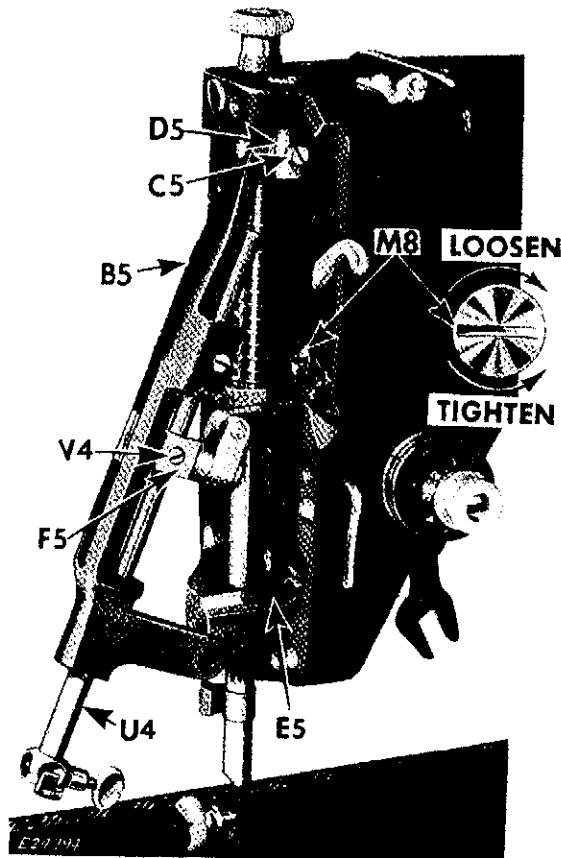

Fig. 69. Needle Bar Holder Removal and Replacement
5. Care should be taken not to lose floating spring **E5**, Fig. 69 which gives sidewise tension to needle bar holder.
6. Turn hand wheel clockwise until a screwdriver can be easily inserted into slot of cap screw **M8**, Figs. 69 and 70. Then turn cap screw clockwise and remove it.
7. Remove hinge screw **C5**, Fig. 69 from supporting bracket **D5** and remove needle bar holder.
2. Place top of needle bar holder **B5**, Fig. 69 into supporting bracket **D5**. Then insert hinge screw **C5** and tighten carefully to avoid stripping threads. (Use finger tip pressure.)
3. Place top of connecting link on thread take-up crank and turn cap screw **M8**, Figs. 69 and 70 counter-clockwise and securely tighten.